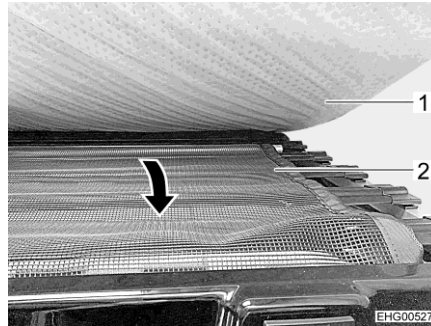

Fig. 73 Safety net
- Pull out the safety net (Fig. 73,2) from under the mattress (Fig. 73,1) and stretch it over the access orifice.